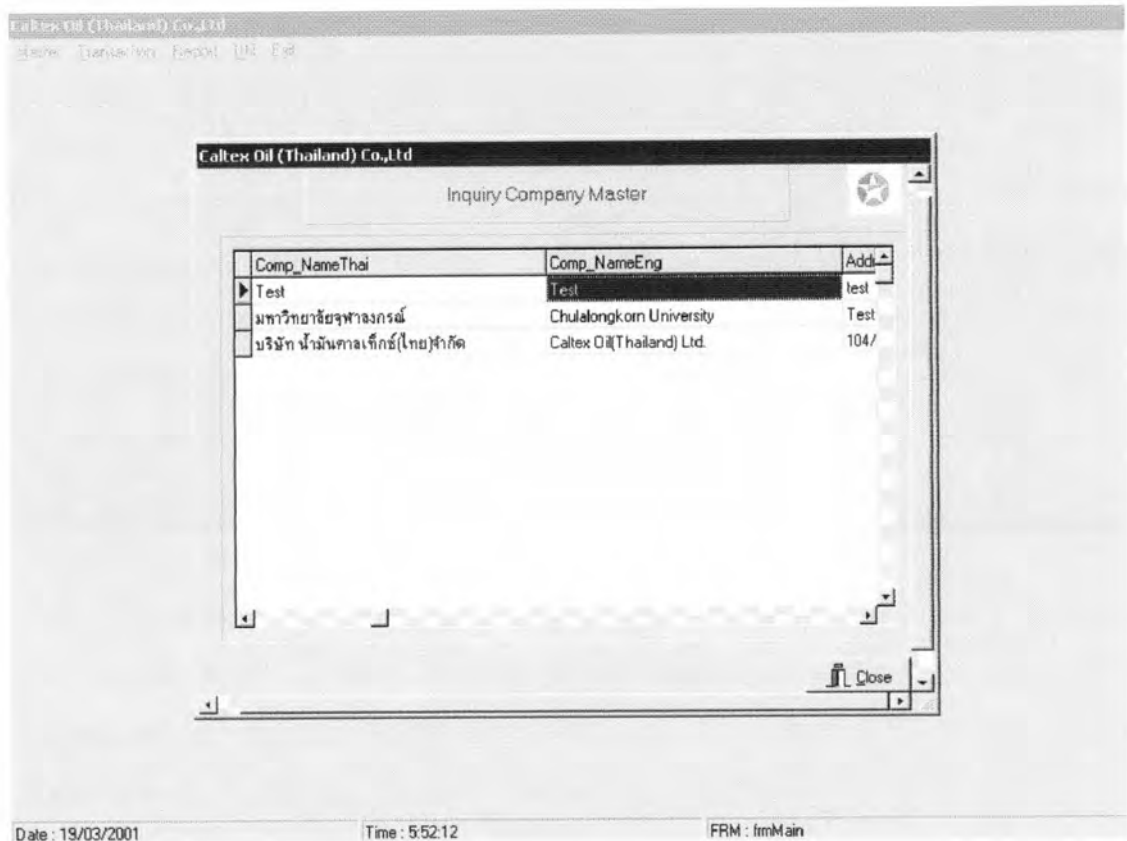

Figure 4-9 Inquiry Company Menu
c) Inquiry company data (see figure 4.9)